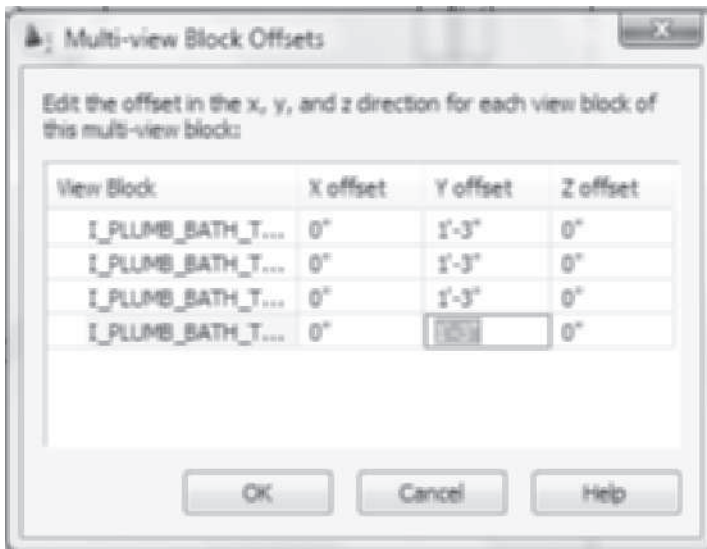

FIGURE 10.40 Edit of insertion Y offset values
19. **Imperial only:** Click the Insertion offsets button of the **Advanced** section of the Properties palette to open the **Multi-view Block Offsets** dialog box. To edit the insertion point, edit the Y Offset field for each of the view blocks to **15"** as shown in Figure 10.40. Click **OK** to dismiss the Multi-view Block Offsets dialog box.